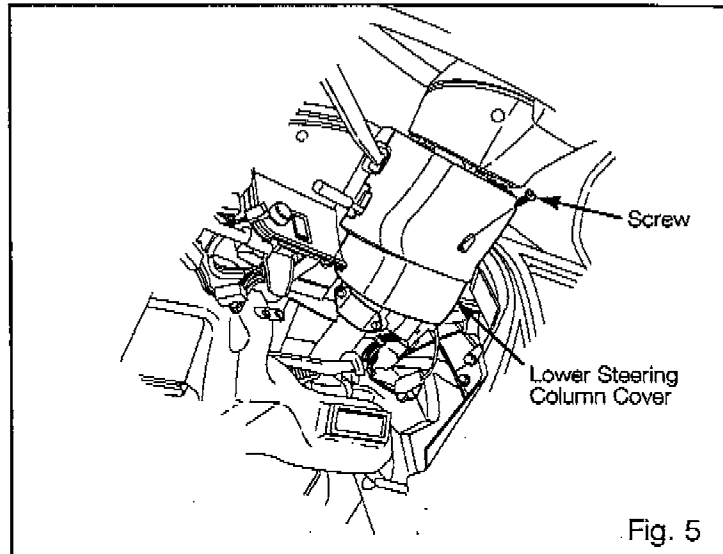

Fig. 5
(5) Remove the lower steering column cover. (1 screw) Fig 5